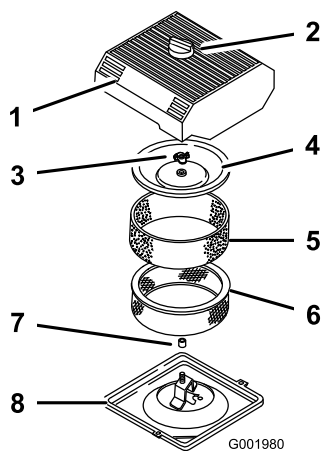

Figure 39
3. Clean around the air cleaner to prevent dirt from getting into the engine and causing damage (Figure 39).
- Loosen the knob on the air-cleaner cover and remove the cover (Figure 39).
- Carefully slide the foam element off the paper element (Figure 39).
- Remove the cover nut, and remove the cover and paper element (Figure 39).
- Carefully slide the foam element onto the paper air-cleaner element (Figure 39).
- Install the cover nut finger-tight against the cover (Figure 39).
- Install the air-cleaner cover and knob (Figure 39).